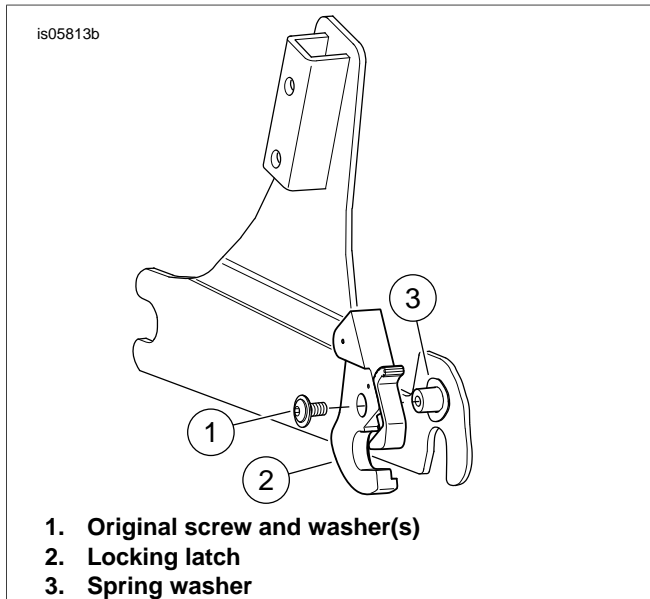

Figure 7. Inner Right (Relief Hidden) Installation
1. See Figure 7. Remove right non-locking latch. Leave the right spring washer on the right mounting hub.